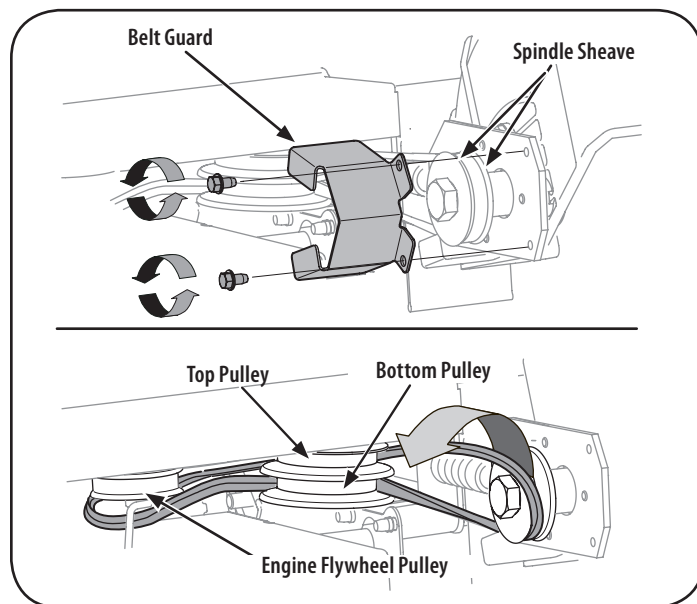

Figure 16
NOTE: Make certain that drive belt is seated correctly on blade spindle and that it is riding smoothly on spindle sheaves (see Figure 16) and is not pinched between them. Repeat first three steps if belt is pinched.
NOTE: Make certain that the drive belt is seated correctly on the blade spindle and that it is riding smoothly on the spindle sheaves (see Figure 16) and is not pinched between them. Repeat the first three steps if the belt is pinched.
3. Remove the spindle sheaves belt guard by removing the two self-tapping screws which secure it to the blade plate assembly. See Figure 16.
4. Carefully remove the belt from off of the pulleys, again making sure to note the orientation of the belt. Discard the belt. See Figure 16.
NOTE: Make certain that the “V” side of the belt is seated into the top pulley and the flat side of the belt is seated into the bottom pulley. See Figure 16.